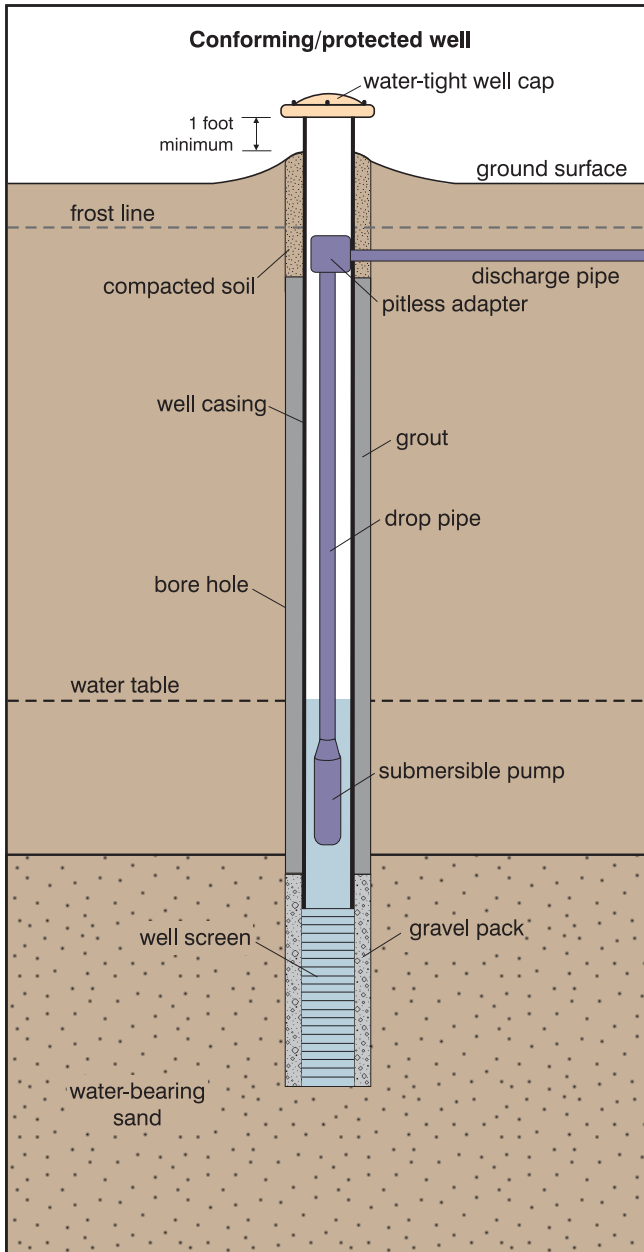
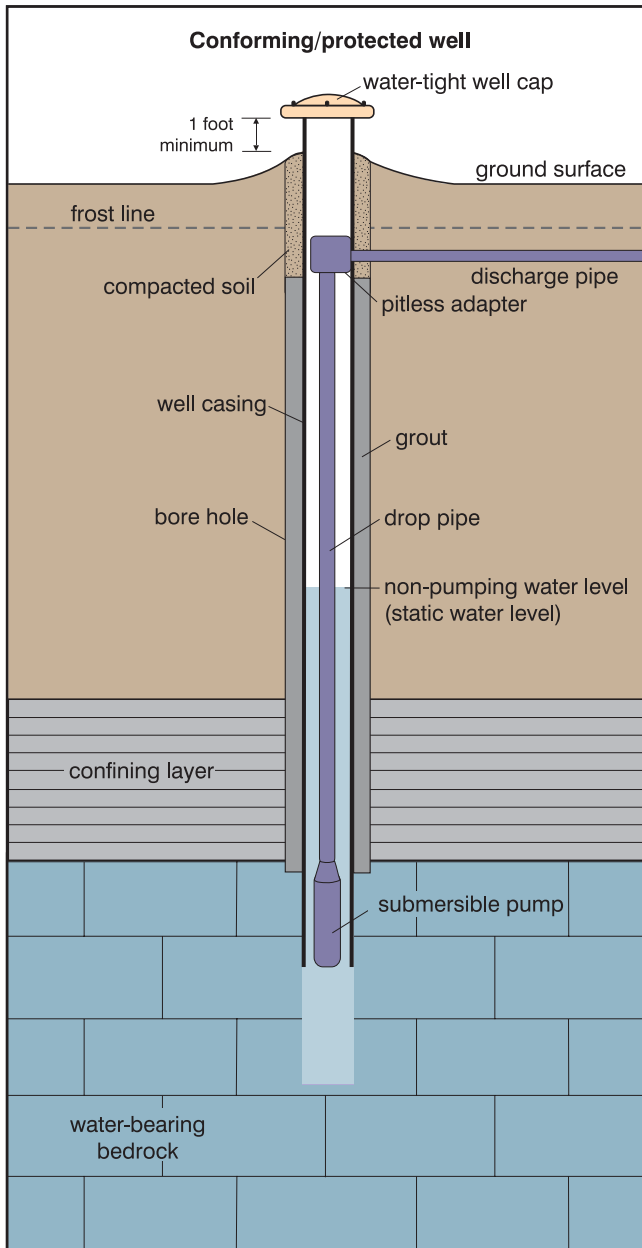

Figure 1. Drilled well tapping water-bearing sand.
Figure 2. Drilled well tapping water-bearing bedrock.
- **Small-diameter drilled wells** (Class 2 wells) are usually cased with steel or plastic pipe. These wells draw water from sand and gravel deposits (Figure 1) or from bedrock aquifers (Figure 2). These wells are the most common wells in Iowa and are generally found throughout the state.